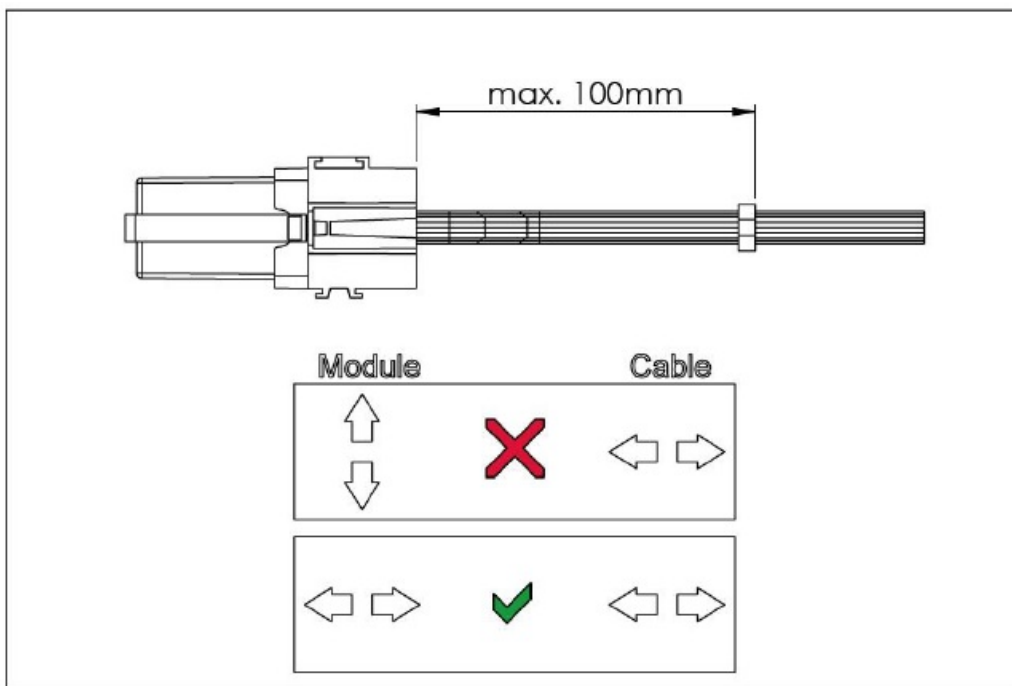

Figure 1: Strain relief of the cable harness (example). 100 mm (max.) are mandatory, time relay may vary.
- The cable routing must be selected in such a way that the cable harness only moves identically to the direction of movement of the controller/plug. (Attachment controller/cable/strain relief on the same underground). A strain relief is necessary (see Figure 1).